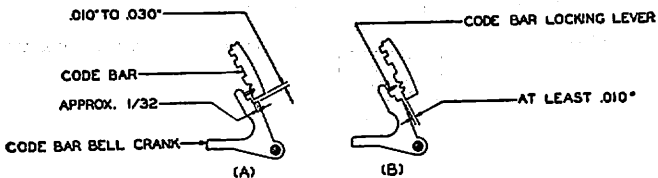
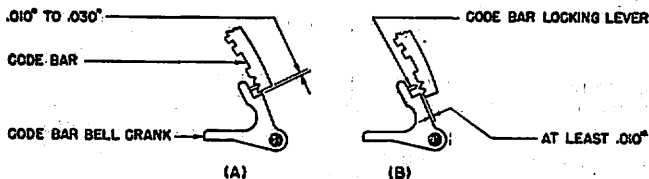

Fig. 38
Fig. 39
- (d) Bell cranks shall clear the adjacent right ends of associated code bars by min.  $.010''$ , max.  $.030''$ , when blank combination is set up and main shaft is rotated until new style two-step bell cranks are in a position where this clearance is a minimum as in Fig. 38 (approximately  $1/32''$  clearance between bell crank step and code bar). In the case of the older one-step bell cranks, this requirement shall be met when main shaft is rotated until the locking lever rests on the code bars as in Fig. 39.
(1) To adjust, reposition vertical lever bracket to obtain horizontal plane for bell crank movement, add or remove shims on bell crank pivot beneath bottom separator plate to raise or lower bell cranks, and reposition bell crank pivot post in its slot to position bell cranks horizontally. Before making these adjustments check 4.31 and if any of these adjustments are made check 4.08, 4.61 and 4.62.
(b) Front edges of code bars shall clear the adjacent edges of associated **code bar bell cranks** by at least  $.010''$  as in Figs. 38 and 39 when "letters" combination is set up and main bail roller is on the high part of its cam.